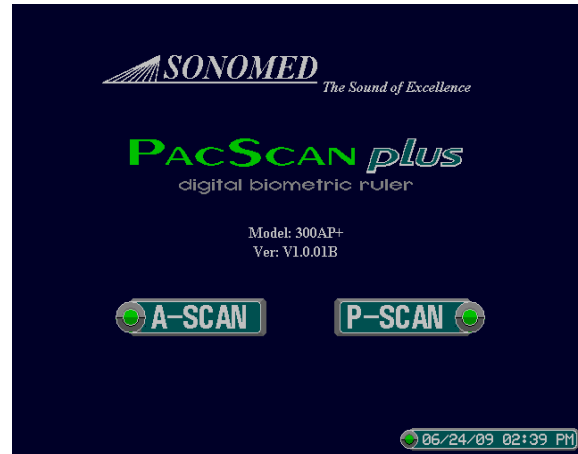

Figure 3-1 Main Screen Display
1. Touch the [**A-SCAN**] button on the Main Screen (see Figure 3-1).